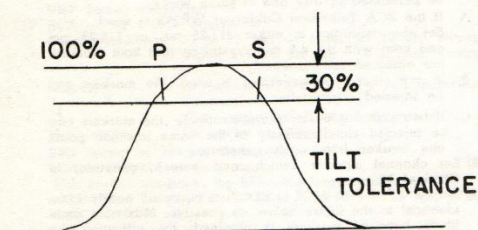

Figure 19
- 8.) Check the response of each channel, 13 through 7, by switching the receiver and sweep generator to each of these channels, and tuning the signal generator to the marker frequencies. OBSERVE the response and marker injections. COMPARE these responses with the ideal response of channel 13 (Fig. 19). It should be found that all these channels have well shaped curves with markers above 70% response. Channel 12 to 7 are supposed to track in relatively well and should not require touching up of any of the coils.